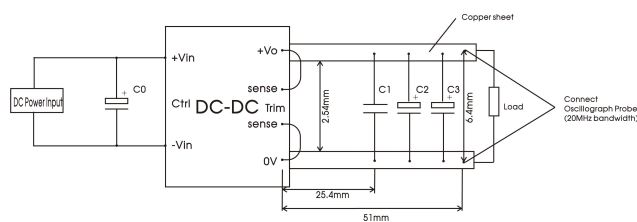

Fig.1
Note: ①For ripple and noise measuring method, please refer to Fig.1
All the DC-DC converters of this series are tested before delivery using the recommended circuit shown in Fig. 1.